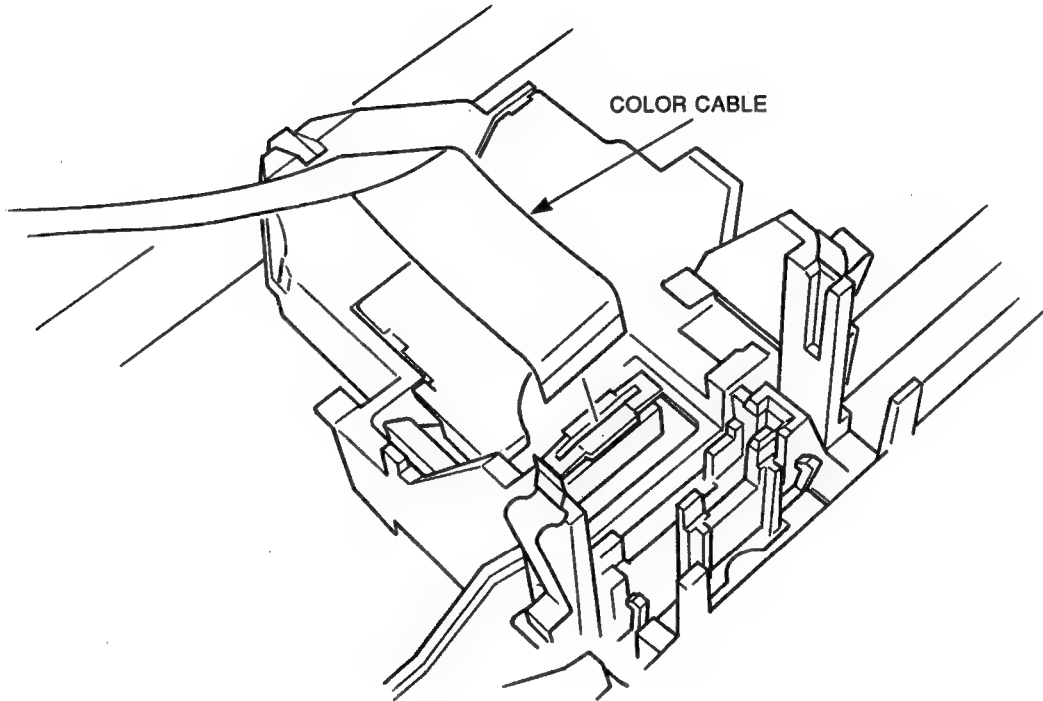

Figure 3-13 Color Cable Removal
1. Pull up both ends of the color cable connector lock (see Figure 3-13).
2. Remove the color cable from the unlocked connector (see Figure 3-13).